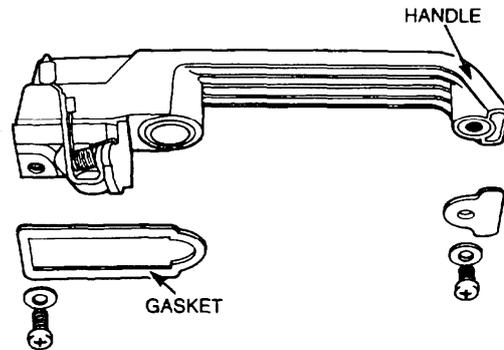

Figure 221 Door Handle Gaskets Installation
- d. Position the new plastic gaskets (Figure 221) on the door handle.